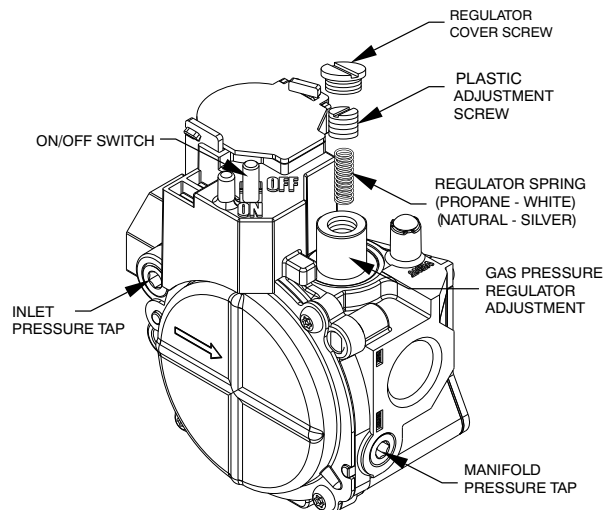
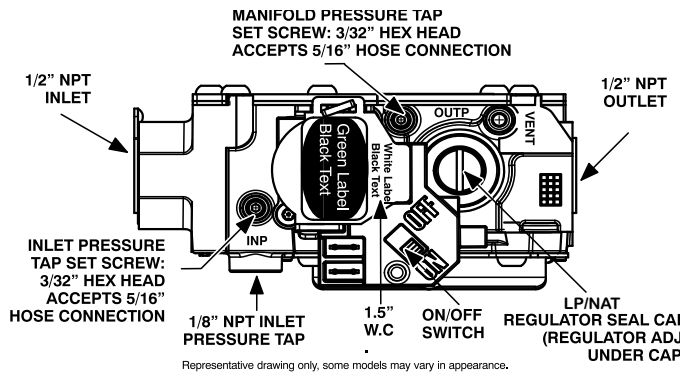

Fig. 13 – Standard Single-Stage Gas Valve
Fig. 14 – Single-Stage Gas Valve with Tower Pressure Ports
- a. For standard gas valves, remove manifold pressure tap cover using an allen wrench. (See Fig. 13.) Install barbed pressure tap and hose to connect to manometer. Turn on gas supply to unit.
- b. For gas valve with tower pressure ports, loosen set screw on manifold tower pressure tap no more than one full turn with a 3/32-in. hex wrench. (See Fig. 14.) Connect manometer by sliding 5/16" connecting hose over the manifold tower pressure port. Turn on gas supply to unit.
1. Remove regulator cover screw over plastic adjustment screw on gas valve (See Fig. 13 and Fig. 14).
2. Turn plastic adjustment screw clockwise to increase gas input, or turn plastic adjustment screw counterclockwise to decrease input (See Fig. 13 and Fig. 14). Manifold pressure must be between 3.2 and 3.8 IN. WC.
3. Replace regulator cover screw on gas valve (See Fig. 13 and Fig. 14).
- a. For standard gas valve, remove manometer hose and barbed pressure tap. Replace pressure tap cover using an allen wrench. (See Fig. 13.)
- b. For gas valve with tower pressure port, remove connecting hose. Tighten set screw on manifold pressure port using a 3/32" hex wrench. (See Fig. 14.)